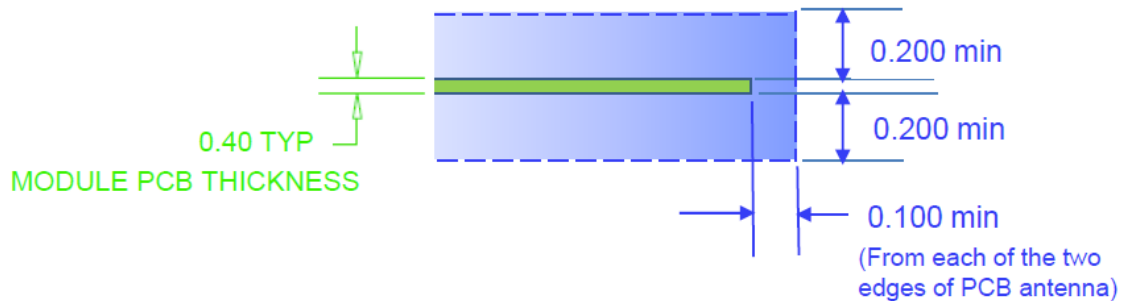

Figure 9-15 Recommended Clearance Above And Below The WLM101 Trace Antenna
- Recommendation is to keep plastic enclosure clearance of 1cm from top and bottom of the WLM10x PCB antenna keep-out area, if possible. 5-mm (0.2 in) clearance shall be the minimum as shown in the Figure 9-15 titled Recommended Clearance Above And Below The WLM101 Trace Antenna in the following figure.